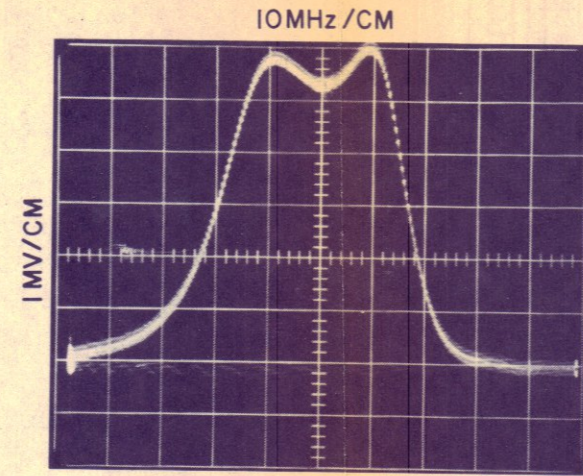
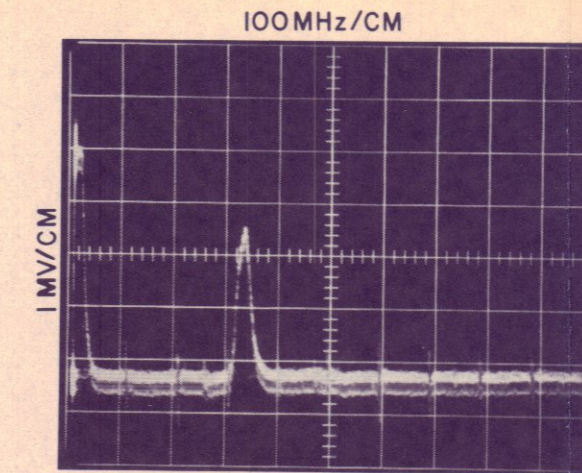
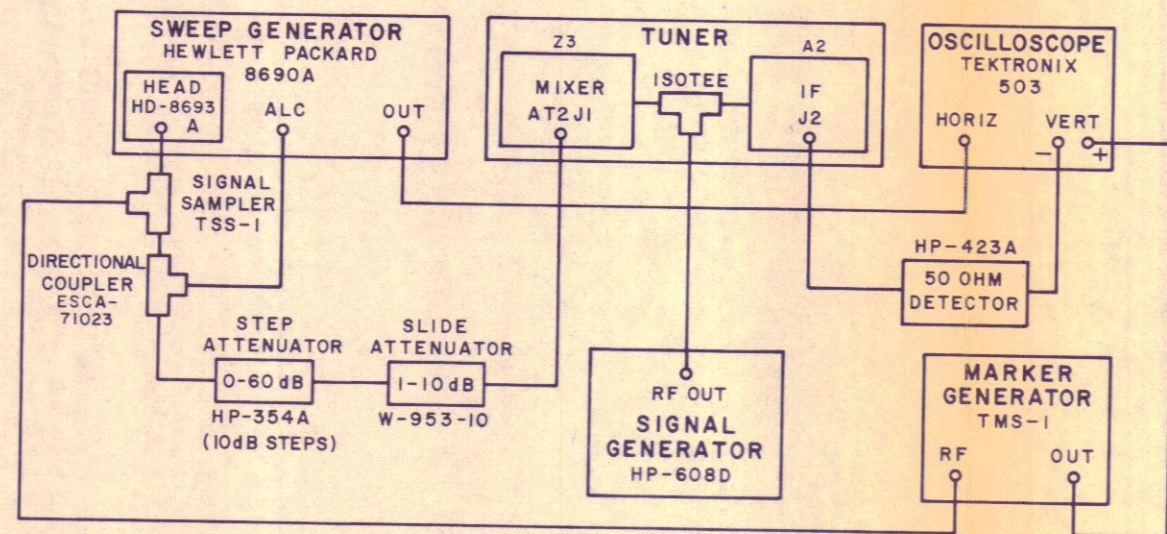

Figure 4-1c. Typical Response, IF Preampfier
Figure 4-1f. Typical Band Response, VFO to Tape Dial Tracking
Figure 4-1b. Equipment Connections, Mixer, LO, IF Preampfier (YIG Filter Bypassed)
- (1) Connect the equipment as shown in Figure 4-1b, page 4-11.
- (2) Set the sweep generator controls for a 4100 MHz \pm 100 MHz sweep. Tune the TH-480B to 4100 MHz and adjust the oscilloscope and microwave attenuator controls to obtain a suitable display.
- (3) Set the HP-608 for 160 MHz markers and the TMS-1 for 10 MHz markers.
- (4) Adjust A2C11 and A2C9 for a maximum amplitude symmetrical response centered about the 160 MHz marker. A typical response is shown in Figure 4-1c, page 4-11.
- (5) The bandwidth should be a minimum of 22 MHz and a maximum of 25 MHz at the 3 dB points.
- (6) Tune the sweep generator and TH-480B simultaneously throughout the band and note the response variation. If excessive tilt occurs anywhere in the 4-8 GHz band, a slight compromise in the settings of A2C11 and A2C9 should be used to obtain the flattest overall response.
- (2) Tune the TH-480B to 4000 MHz and carefully loosen the setscrews in the flexible coupling which connects the VFO to the gear train.
- (3) Adjust the sweep generator controls to sweep from 4 to 8 GHz and the oscilloscope and attenuators to display a response similar to Figure 4-1f. Set the TMS-1 for 100 MHz markers.
- (4) Identify the response that is lowest in frequency. Without moving the tape dial from 4000 MHz, carefully rotate the VFO tuning shaft and move the response to the 100 MHz marker representing 4000 MHz.
- (5) Set the sweep generator for a narrow sweep mode of 4000 MHz + 100 MHz.
- (6) As in step (4), carefully center the response about the 4000 MHz marker. Figure 4-1c shows a typical response. Tighten the flexible coupling setscrews.
- (7) Adjust the sweep generator controls for a 8000 MHz +100 MHz sweep. Note the relationships between the displayed response and the 8000 MHz marker. If the response is not centered, loosen the setscrews in the flexible coupling and carefully rotate the VFO shaft to remove one half of the error. Tighten the setscrews. The tape dial to frequency error should be no more than 1%, i. e., +80 MHz at 8000 MHz and +40 MHz at 4000 MHz. Errors in excess of this indicate a faulty VFO. With the end frequencies set correctly, the VFO to tape dial tracking should be satisfactory.
- (8) Verify the correct VFO to tape dial tracking at 500 MHz intervals throughout the band by identifying the correct marker, adjusting the sweep generator and TH-480B tuning to the correct frequencies, and noting the response to frequency marker relationships.